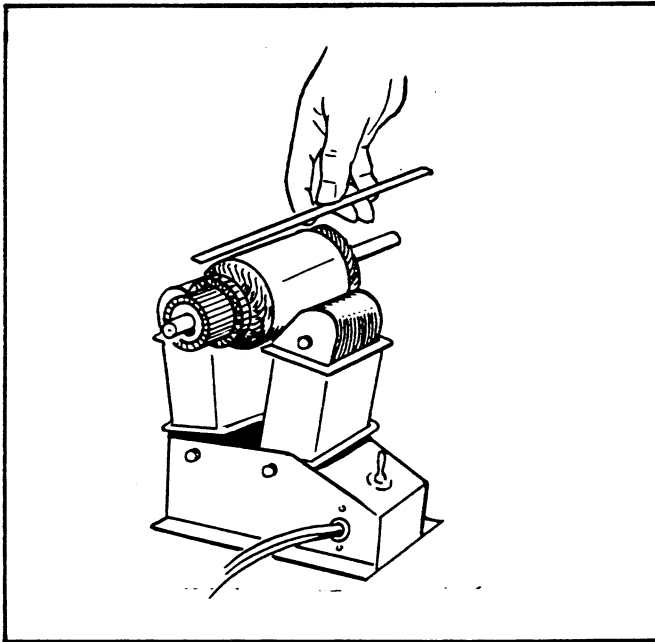

FIGURE 38. ARMATURE SHORT CIRCUIT TEST
1. **Testing armature for short circuits.** Place the armature in a growler and hold a thin steel blade parallel to the core and just above it per Figure 38 while slowly rotating the armature in the growler. A shorted armature will cause the blade to vibrate and be attracted to the core. Replace shorted armature.